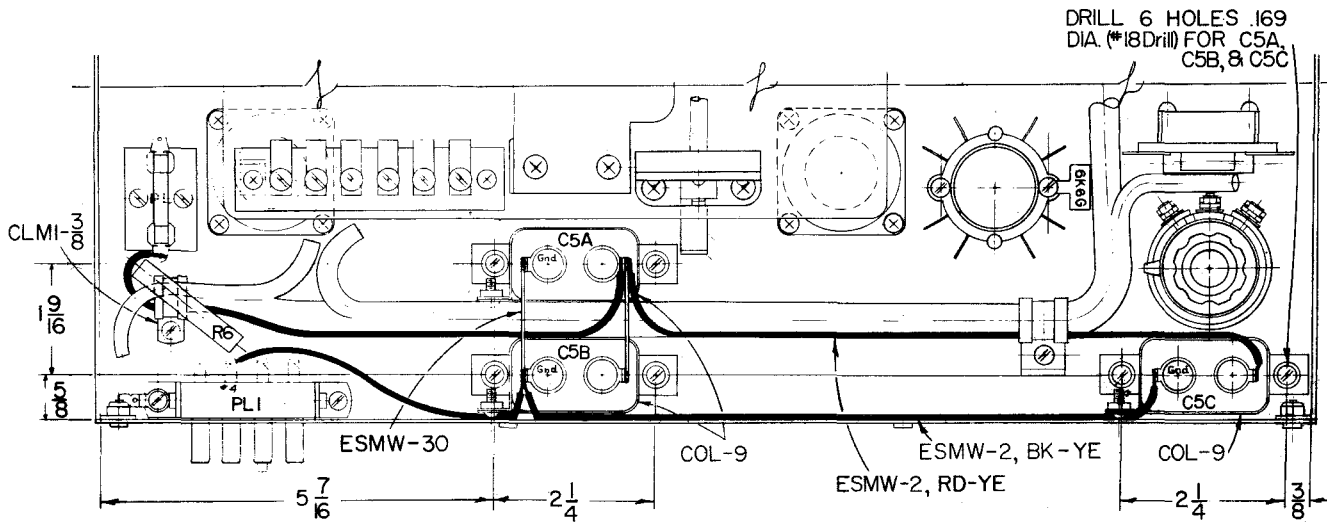

Figure 6. Type 1103-A Modification Kit Installation, Top Rear View.
4.2 INSTALLATION OF FILTER CAPACITORS IN SYNCRONOMETER. (See Figure 6.)